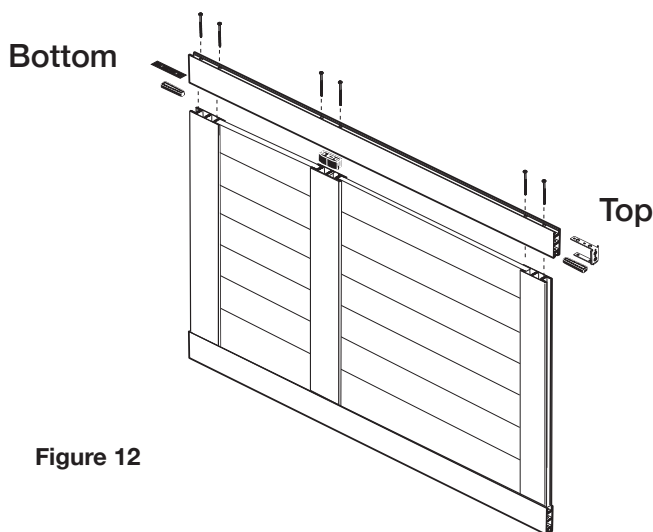

Figure 12
Make sure the holes in the extrusion on the Top rail (C) line up against the screws. Once in place, continue tightening screws until stile and rail are flush and secure. Go back and fully tighten the screws in the Center and Top Rails. Do not Once in place, continue tightening screws until stile and rail are flush and secure. Go back and fully tighten the screws in the Center and Top Rails. Do not overtighten. See Figure 12.